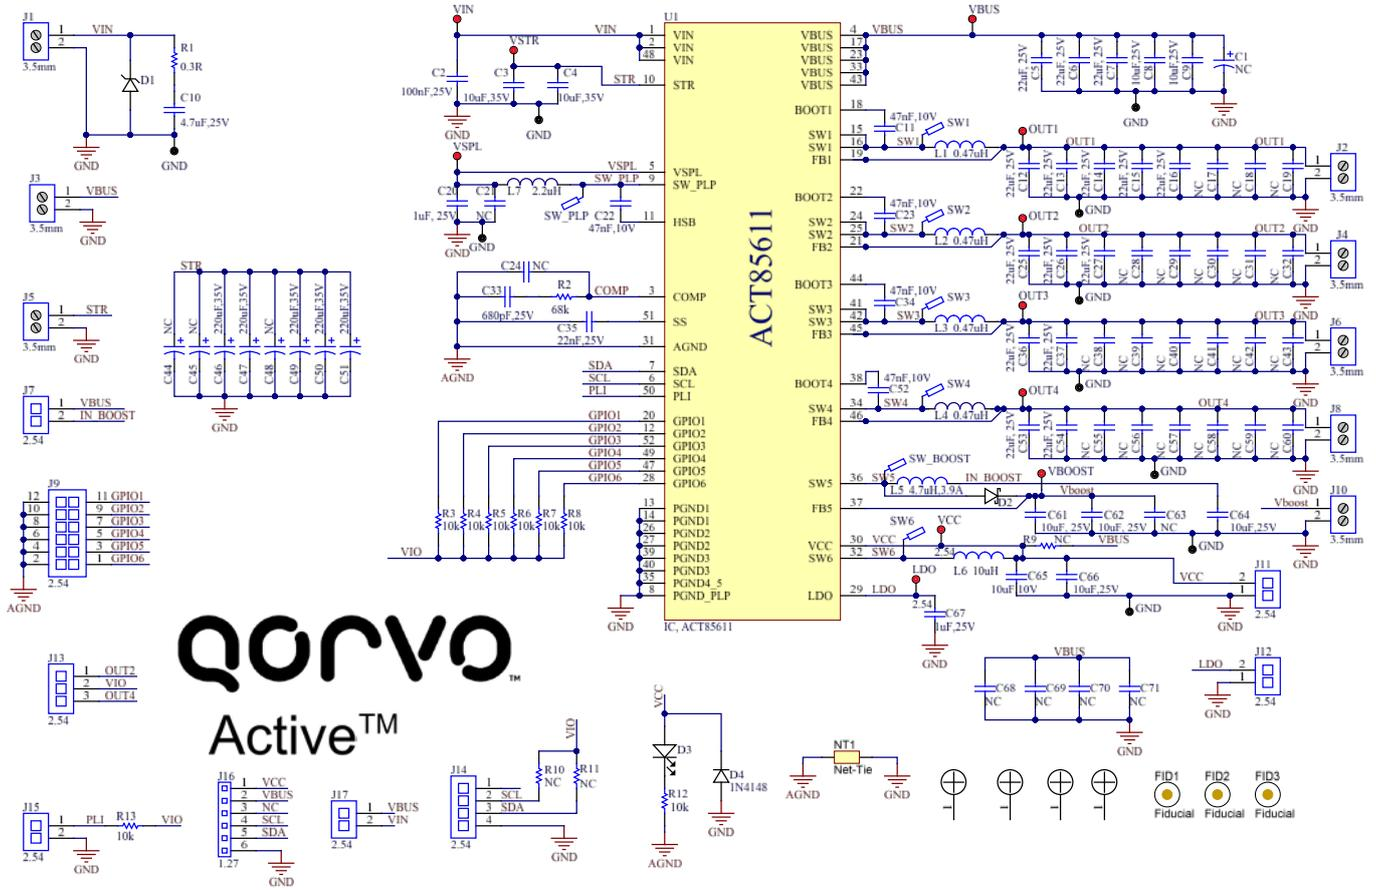

Figure 4 – ACT85611 EVK1-101 Schematic
3. Connect the USB-TO-I2C dongle to the EVK J14 connector. Refer to Figure 4 to ensure the correct polarity of the connection. As a guide, use the “Qorvo” logo or (“Active-Semi”) logo on the top of the dongle so the black wire is connected to the Dongle GND pin.